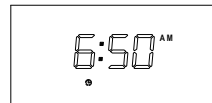

Fig.3
2. Press the SET button again. The clock icon [1] on the screen will flash (See Fig.3).